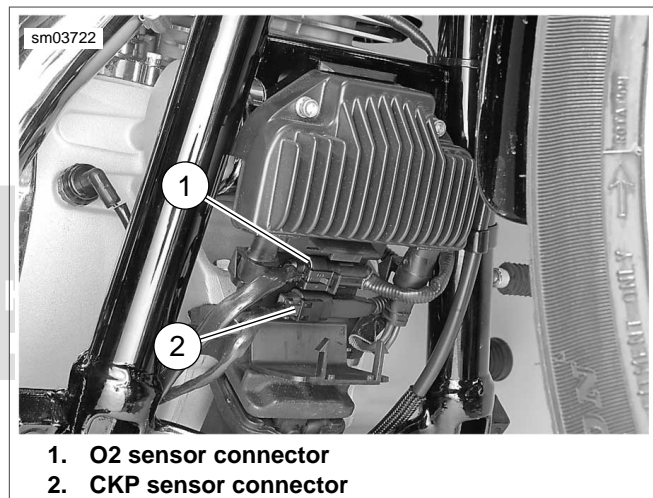

Figure 4-66. Front Electrical Caddy and Connectors
3. See Figure 4-66. Open front electrical caddy cover and disconnect front O2 sensor connector [138] (1). Remove connector housing from caddy.